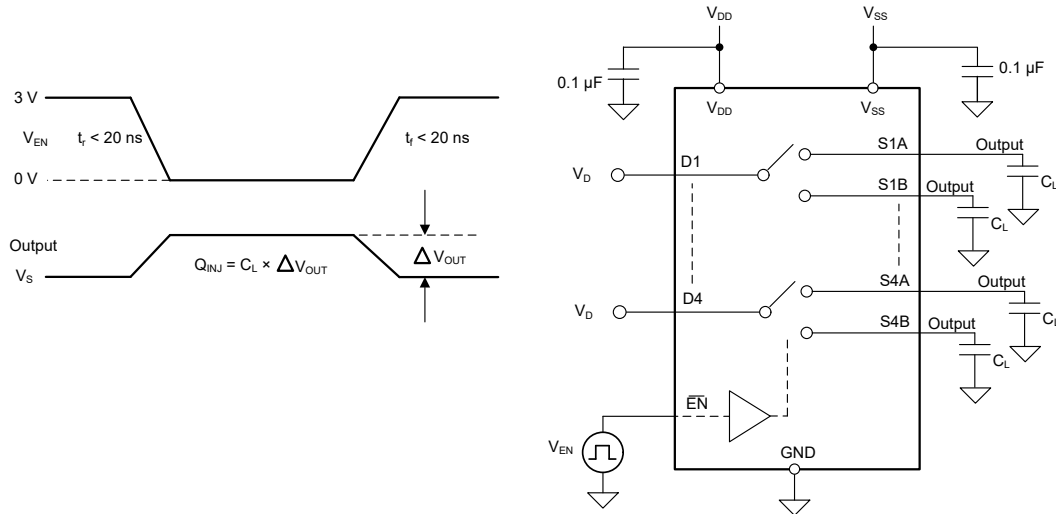

Figure 6-9. Charge-Injection Measurement Setup
The TMUX7234 has a transmission-gate topology. Any mismatch in capacitance between the NMOS and PMOS transistors results in a charge injected into the drain or source during the falling or rising edge of the gate signal. The amount of charge injected into the source or drain of the device is known as charge injection, and is denoted by the symbol  $Q_{INJ}$ . Figure 6-9 shows the setup used to measure charge injection from source (Sx) to drain (D).